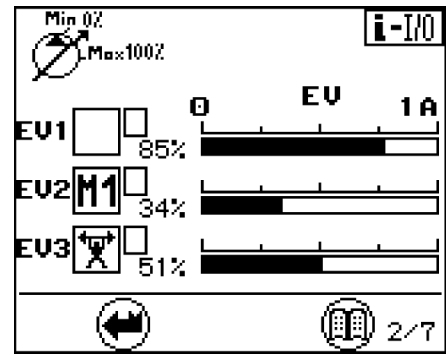
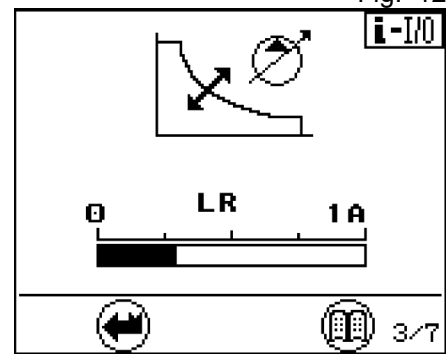

Fig. 12
Fig. 13
b) Information about the hydraulic pumps, information screen Fig. 12 and Fig. 13.
The screen 2 (see Fig. 12) gives following indications for each working pump:
- If a flow limitation is activated for the pump. If it occurs, the symbol “R” is displayed in the field TI, see main screen. The Fig. 12 shows an example with the flow limitation M1 activated, which limits the pump P1 to 34% of the maximum flow. Should several flow limitations be actuated at the same time, so the one with the smallest flow value has priority.
The present LR solenoid current (current value for power control) is showed on screen 3 (see Fig. 13).